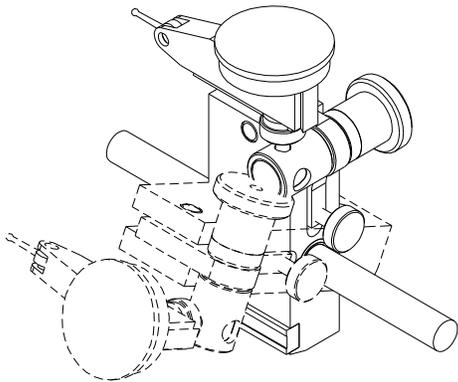
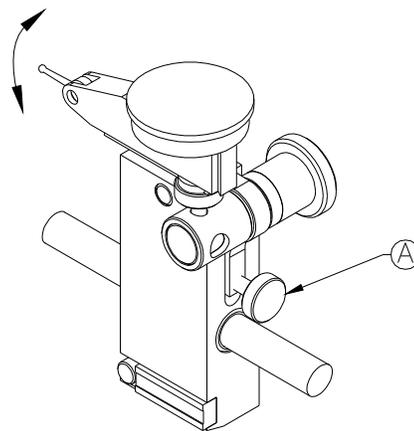

Figure 8. Tilt-away function
Figure 9. Fine adjust feature
6.0 Tilt-away and Fine Adjust – (See Figures 8 and 9)
The standard Indicator Carriers have three design features that allow quick and easy set-up. The first is the tilt-away feature that allows the user to move the carrier out of position for easier loading and unloading of parts (See Figure 8). The second is the fine adjust knob (A) (See Figure 9). Once a carrier is in close proximity to the part, the user can bring the tip of the indicator into position and zero it out. Lastly, the Carriers are adjustable along the shafts (Z-axis) for different part lengths.